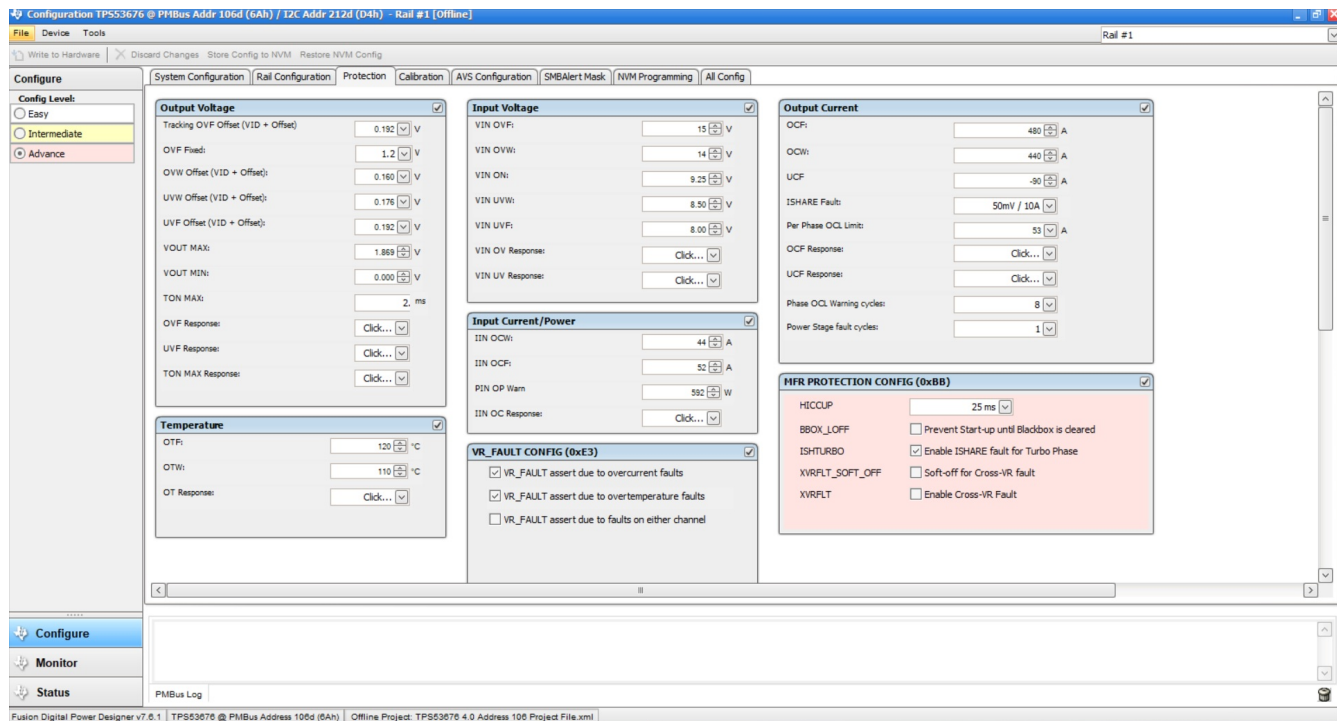

Figure 7-9. System Protection parameters config
- output voltage.... selected as shown in Figure 7-9.